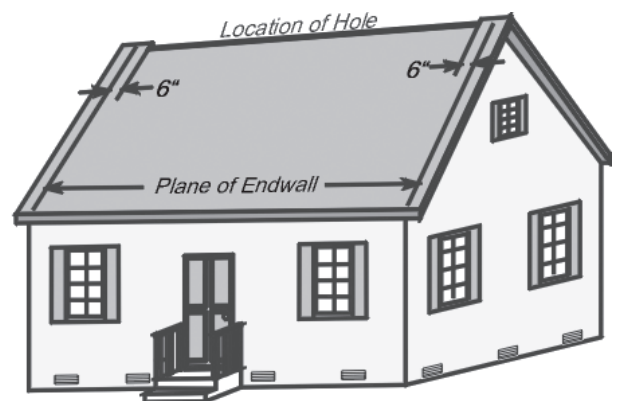

Figure 3
NOTE: DO NOT CUT THE HOLE THE ENTIRE LENGTH OF THE RIDGE. THE LENGTH OF THE CUT WILL BE ONE (1) FOOT LESS THAN THE LENGTH BETWEEN THE END WALLS (SEE FIGURE 3).
The length of the cut should end 6 inches inside each end wall as shown in Figure 3. Mark the width to be cut with a chalk line (for a straighter cut) and also mark the end of the cuts. The hole is best cut with a circular saw taking care to set the depth of the cut to avoid cutting any rafters. Cut the hole and remove the cut decking.